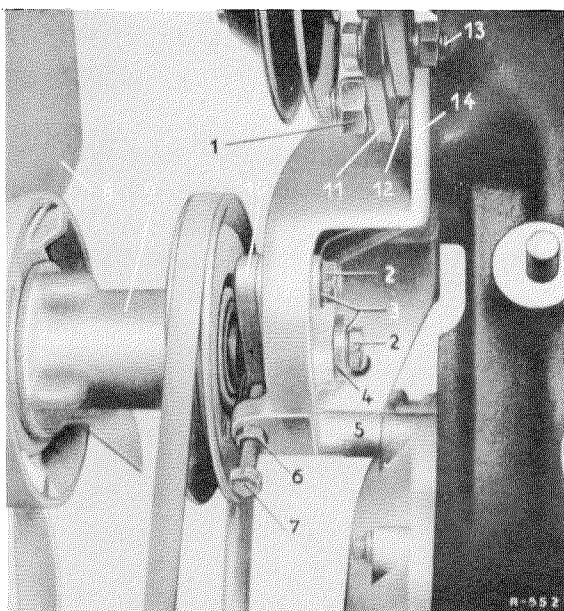

Figure 20-15/1
2. Loosen the hex nut (6), the screw (7) and the fixing screws (2) to release the V-belt and remove V-belt (see Figure 20-15/1).